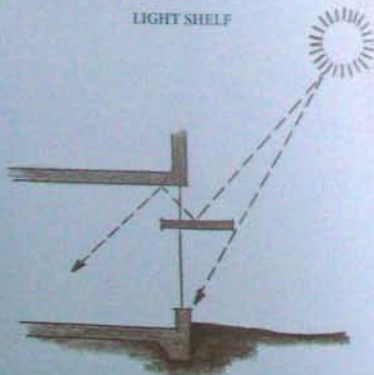

Figure 12
- Use reflection to soften incoming light. For example, a light shelf can shade the view window, reflect sunlight deep into a room, and block sky glare (see figure 12).